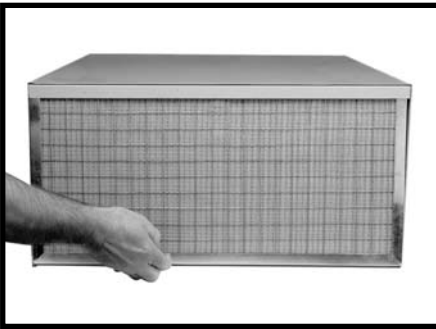

Fig. 2A
2. Remove outer filter by lifting up on the bottom and pulling out. (Fig. 2A).